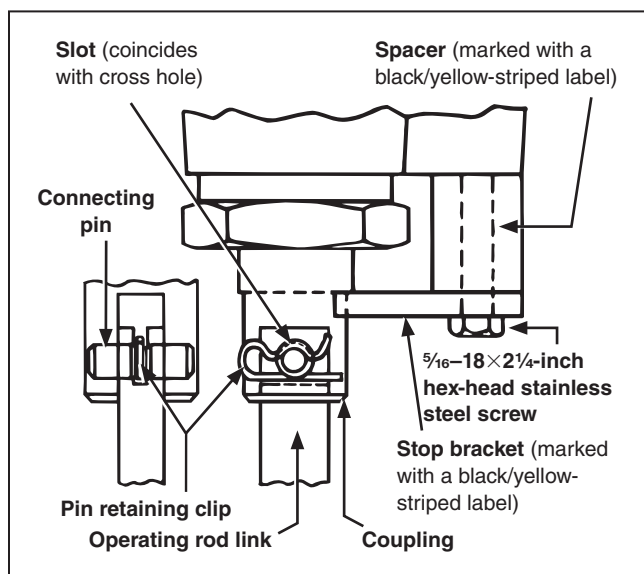
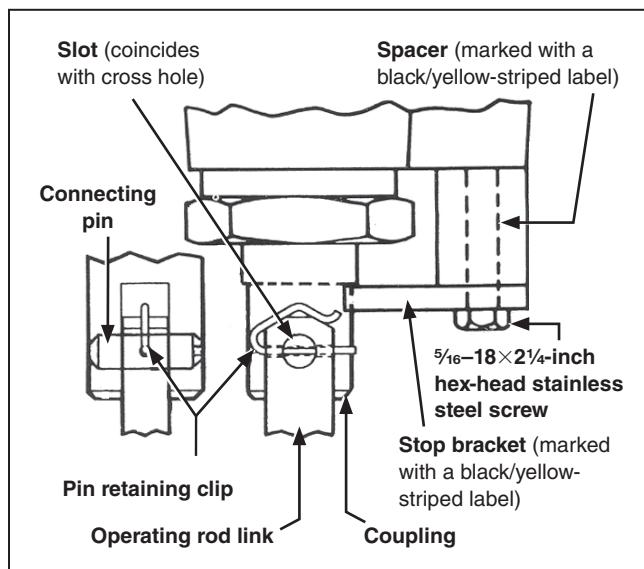

Figure 16. Connecting the interrupter to the operating rod link for circuit-switchers rated 69 through 138 kV.
Figure 17. Connecting the interrupter to the operating rod link for circuit-switchers rated 161 kV through 230 kV.
- (f) **For circuit-switchers rated 69 kV through 138 kV:** Insert the connecting pin retained from Step 2(c) on page 14 into the coupling and operating rod link. See Figure 16. It will be necessary to loosen the 5/16–18 × 2¼-inch hex-head stainless steel screw indicated in Figure 16 and withdraw it approximately ⅛-inch (3 mm) so the connecting pin can be inserted. Do not remove the screw at this time. Insert the pin retaining clip as indicated in Figure 16. Make sure the clip is positioned as shown.
**For circuit-switchers rated 161 kV through 230 kV:** Insert the connecting pin retained from Step 2(c) on page 14 into the coupling and operating rod link. See Figure 17. It will be necessary to loosen the 5/16–18 × 2¼-inch hex-head stainless steel screw indicated in Figure 17 and withdraw it approximately ⅛-inch (3 mm), so the connecting pin can be inserted.
Do not remove the screw at this time. Use a flat-head screwdriver blade in the slot at the end of the connecting pin to align with the cross-hole in the operating rod link. Now, insert the pin retaining clip as indicated in Figure 17. Make sure the clip is positioned as shown.
- (g) Remove and discard the 5/16–18 × 2¼-inch hex head stainless steel screw, stop bracket (marked with a black/yellow-striped label), and spacer (marked with a black/yellow-striped label) illustrated in Figure 16 and Figure 17.
- The interrupter coupling has been connected to its insulated operating rod link (see Figure 16 on page 15 and Figure 17 on page 15)